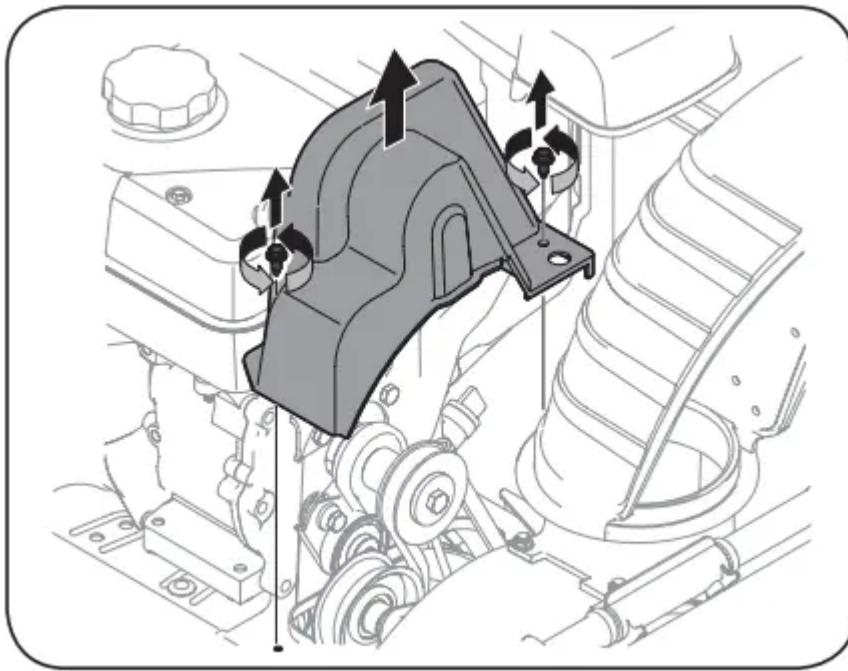

Figure 67
2. Remove the plastic belt cover on the front of the engine by removing the two self-tapping screws. See Figure 67